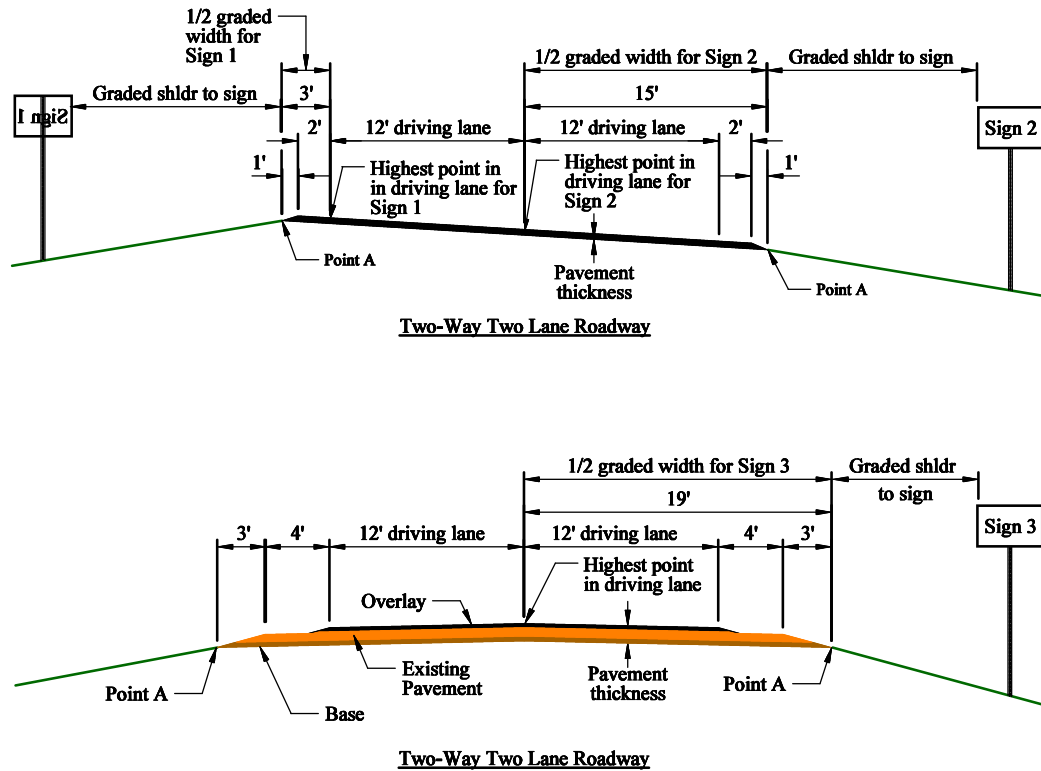

Figure 20 – Graded Width Examples for Perforated Tube Supports
40. **Graded Width:** The graded width is double the distance, in inches, from the highest point in the driving lane(s), which pertains to the sign, to the point where the bottom of the pavement depth intersects the inslope (Point A in Figure 20.) The program assumes that the roadway is symmetrical and if it is not, it has to be adjusted as shown in the examples below. For Sign 1, the graded width is calculated as $3' \times 2 = 6'$ or 72”.
41. **Graded Shldr to Sign:** The distance, in inches, from the edge of the graded width to the edge of the sign(s) closest to the roadway. For example, the graded shoulder to sign distance for Sign 3, in Figure 20, can be calculated as 18' (the minimum required horizontal distance, see ND Standard Drawing D-754-23) minus 4' (shoulder width) minus 3' (distance from the shoulder to Point A.) Therefore, the graded shoulder to sign distance for Sign 3 is 11' or 132".